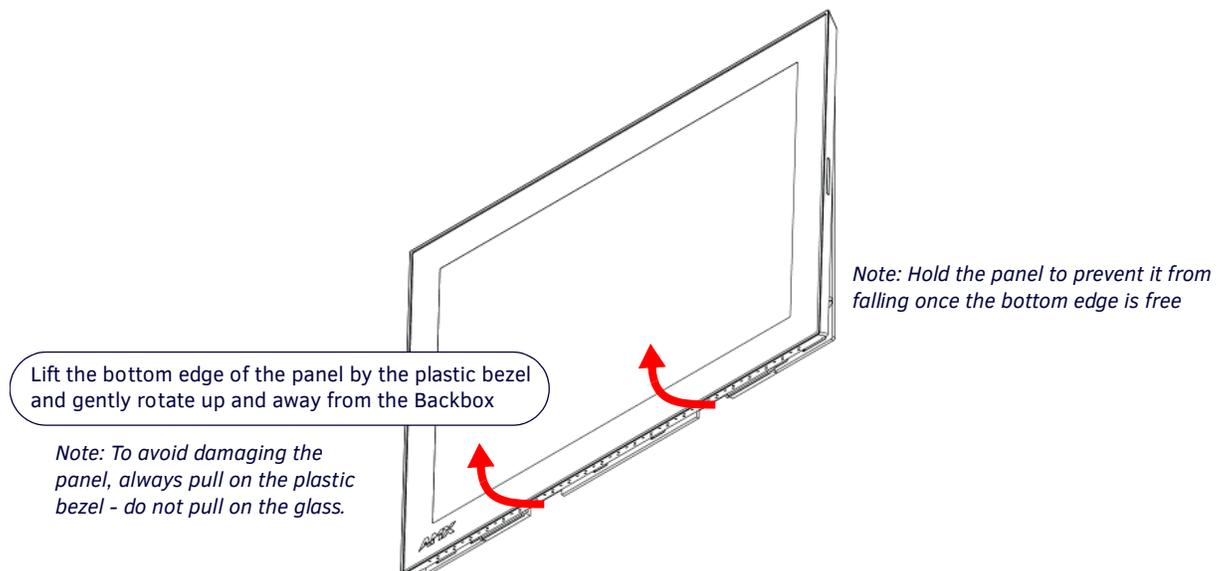

FIG. 34 MSD-1001-L/2 BACKBOX ASSEMBLY (RELEASING THE BOTTOM EDGE OF THE PANEL)
2. Grasp the bottom of the panel and gently pull outward until the bottom edge of the panel is free of the Backbox. Use your other hand to stabilize the front of the touch panel. Always pull on the panel's plastic bezel - NEVER pull on the glass edge (FIG. 34):